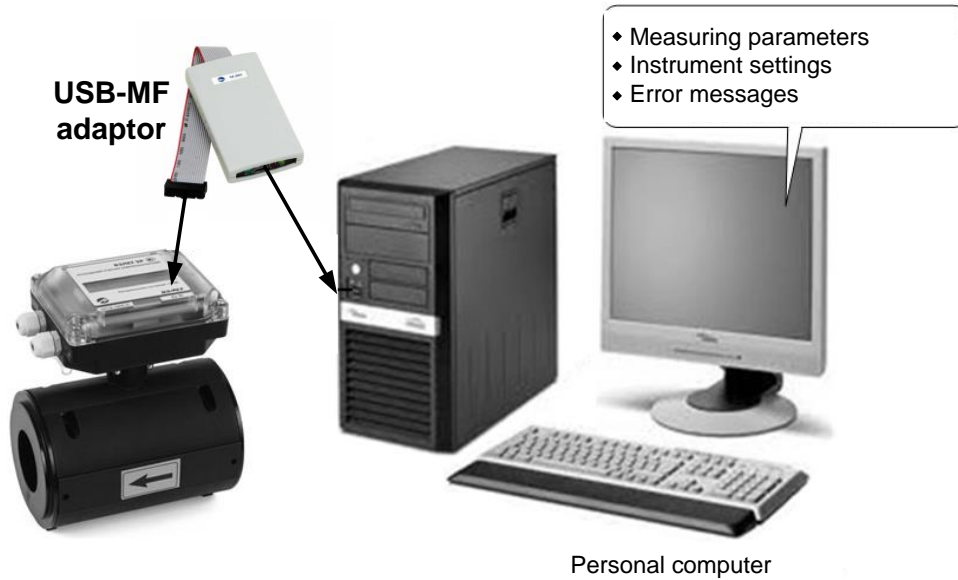

Fig.1. AFLOWT MF control devices
1.1. The flow meter can be controlled from a personal computer (PC) via serial USB or RS-485 ports (Fig.1).